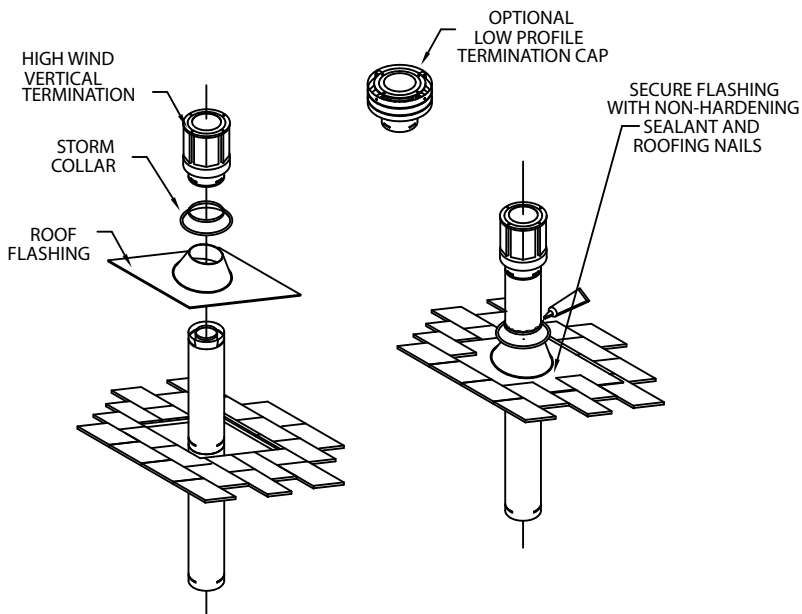

Figure 18
(3) Wherever possible, use 45° Elbows instead of 90° Elbows. The 45° Elbow offers less restriction to the flow of flue gases and intake air.
Step 7. Slip the Roof Flashing over the Pipe Section(s) protruding through the roof. Use a non-hardening sealant between the Roof Flashing and the roofing to prevent water leakage. Secure the base of the Roof Flashing to the roof with roofing nails. Ensure the roofing material overlaps the top edge of the Roof Flashing (**Fig. 18**). Verify that you have at least the minimum clearance to combustibles at the roofline and in the attic.
Step 9. Slip the Storm Collar over the Pipe Section, and push it down to the top of the Roof Flashing (**Fig. 18**). Use non-hardening sealant between the Storm Collar and the Pipe Section.